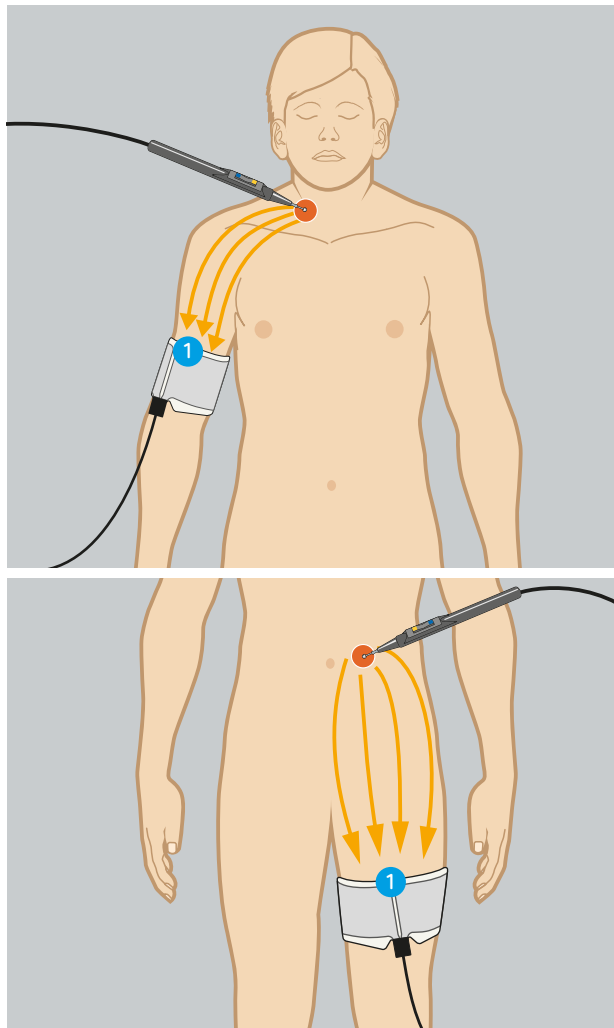

Fig. 2-2
- ⇒ Align the long edge of the neutral electrode (1) towards the procedural field. The current should flow from the instrument towards the long edge of the neutral electrode. See Fig. 2-2.